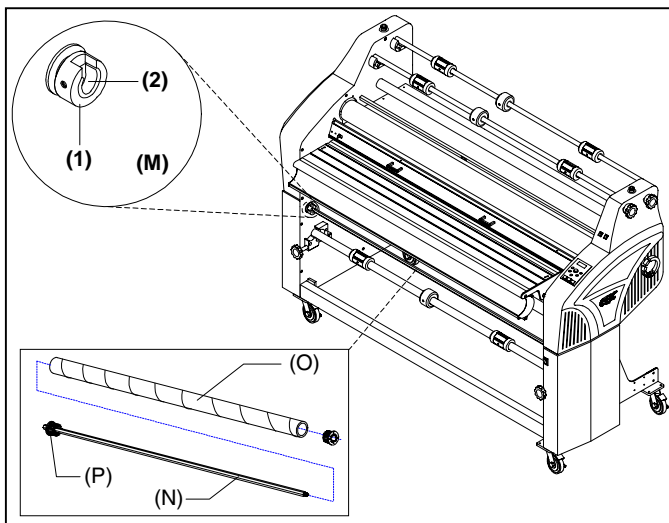

Fig. 18
(Figure 18) Secures the left side of the lower rewind shaft. To remove a shaft, turn the outer dial (1) opening so it aligns with the inner u-channel (2) opening and lift up end up and pulling the hex end out.
**N. REWIND SHAFT:** (Figure 18) The rewind shaft holds the rewind tube on the machine.
**O. REWIND TUBE:** (Figure 18) The two rewind tubes located at the front of the machine are used to rewind release liners. The one located at the rear of the machine is used to rewind the finished product.
**P. REWIND ADAPTORS:** (Figure 18) Hold and lock the rewind tube on the rewind shafts to prevent side to side shifting.